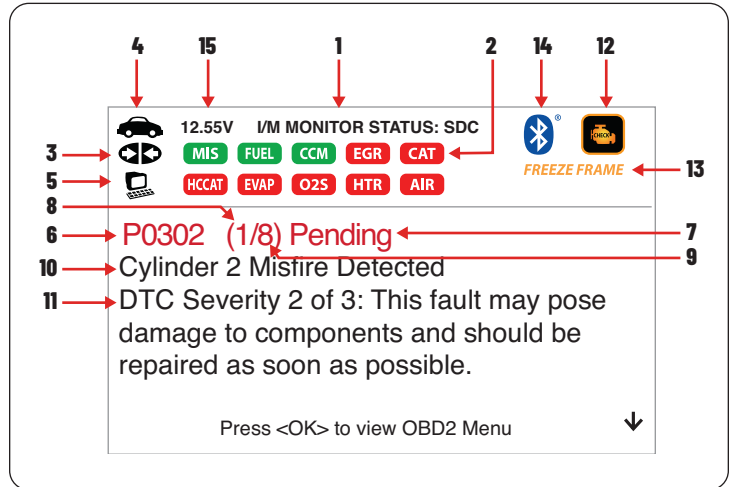

Figure 2. Tablet Display Functions
See Figure 2 for the locations of items 1 through 15 below.